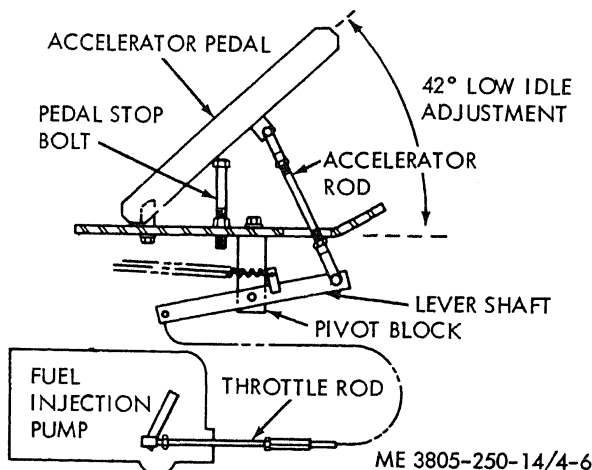

Figure 4-6. Throttle adjustment.
d. *Throttle Adjustment* (fig. 4-6).
(1) Stop the lever shaft against the lever pivot block.
(2) Adjust the accelerator rod until the angle formed by the accelerator pedal and the floor plate is 42 degrees. Tighten the jam nuts on the accelerator rod.
(3) Use a tachometer capable of reading 2500 rpm. to monitor engine speed. Start the engine.
(4) Adjust the turnbuckle on the throttle rod to obtain a tachometer indication of 725 to 775 rpm. Tighten the jam nuts on the throttle rod.
(5) Adjust the pedal stop bolt to obtain an indication of 2315 to 2365 rpm when the accelerator pedal contacts the stop bolt. Tighten the jam nut.
(6) Shut down the engine and remove the tachometer.